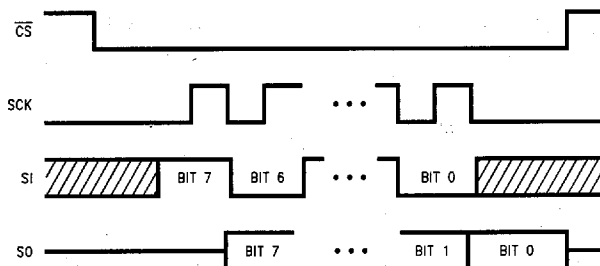

FIGURE 3. SPI Protocol
**TRANSMITTER/RECEIVER:** The NM25C020 has separate pins for data transmission (SO) and reception (SI).
**PROTOCOL:** When connected to the SPI port of a 68HC11 microcontroller, the NM25C020 accepts a clock phase of 0 and a clock polarity of 0. The SPI protocol for this device defines the byte transmitted on the SI and SO data lines for proper chip operation. See Figure 3.